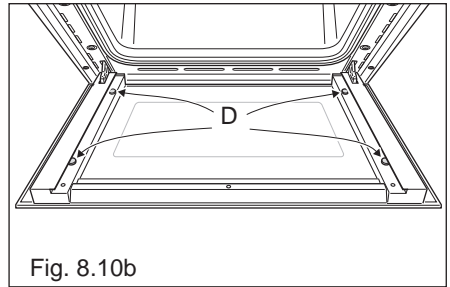

Fig. 8.10b
- Check that the four rubber pads are in place ("D" in fig. 8.10b).